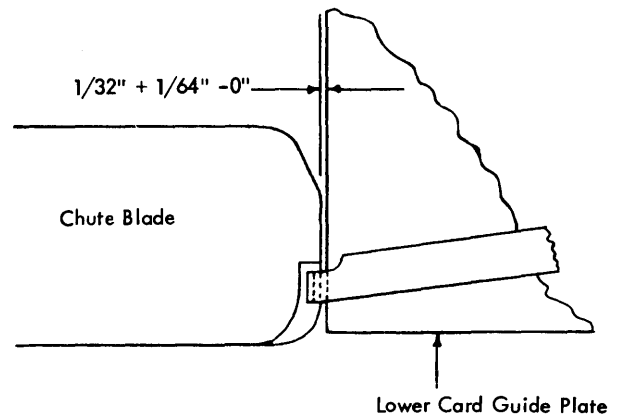

Figure 4-8. Chute Blade Adjustment
3. Adjust the chute blades (by using mounting screw) for $1/32'' + 1/64'' - 0''$ clearance between the end of the chute blade and the lower card guide edge (Figure 4-8).